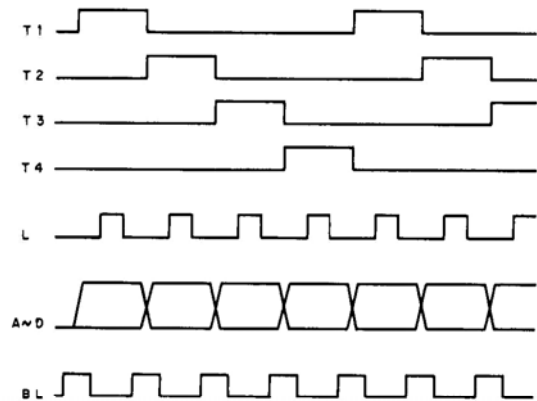

Fig. 4-4 Data Program Signal Time Chart
The data program signals used to designate FM/AM operation and the programmable counter frequency division ratio consists of BCD code pulse (A-D), time division pulse (T1-T4), and load pulse (L) signals. See Fig. 4-4 for an outline of the data program signal time chart.
The time division pulse generated by TC9124AP (outlined in Fig. 4-4) is a time-sharing timing signal used in synchronizing almost all TC9124AP inputs and outputs.